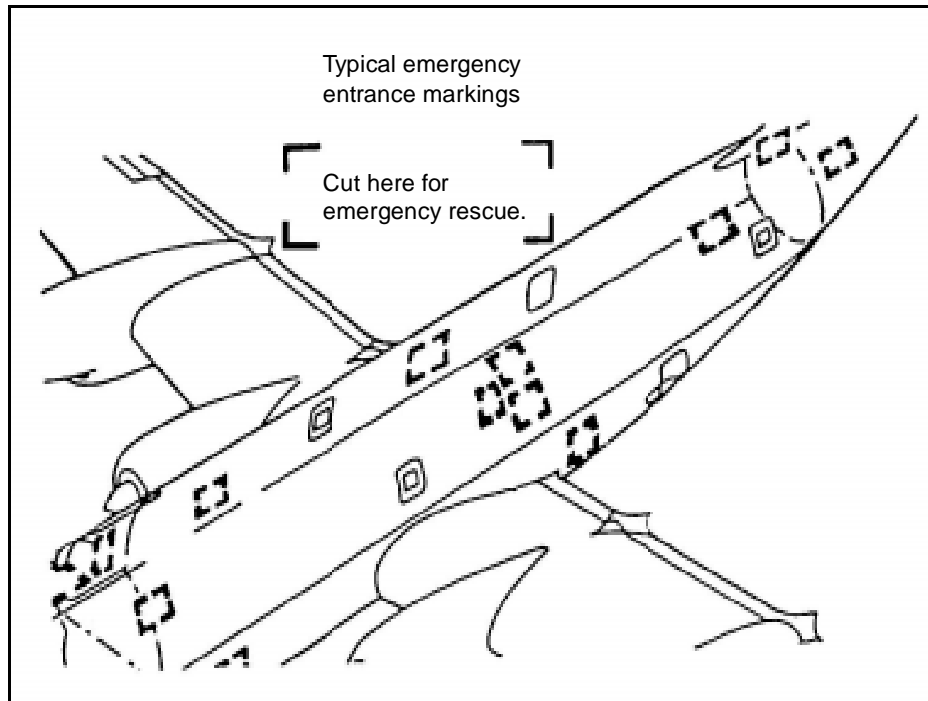

Figure 7-4. Emergency cut-in areas
**7-71.** Cut-in areas are indicated by broken yellow lines. These areas should be free of obstacles so that rescue personnel will not cut through heavy structural members or rupture fuel, electrical, or oxygen lines. Rescue personnel should cut fuselage skin carefully to prevent igniting fuel vapors. They will cut along three sides of the yellow lines and use the bottom as a hinge to pull the section outwardly (see Figure 7-4, page 7-18).